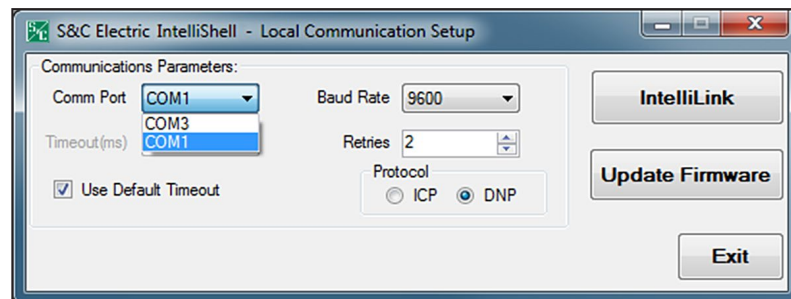

Figure 30. The S&C Electric IntelliShell—Local Communication Setup dialog box.
STEP 11. Click on the **Update Firmware** button. See Figure 30.